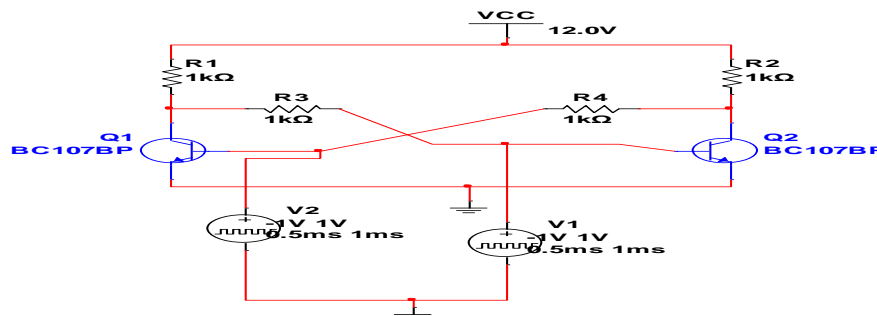

Figure10.3: Bistable Multivibrator
10.3 Simulate bistable multivibrator as shown in figure 10.3 using MULTISIM and plots output waveforms.